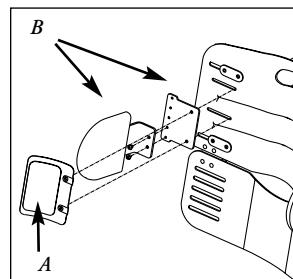

Figure 17
**LATERAL BRACKET VERTICAL ADJUSTMENT Figure 17**